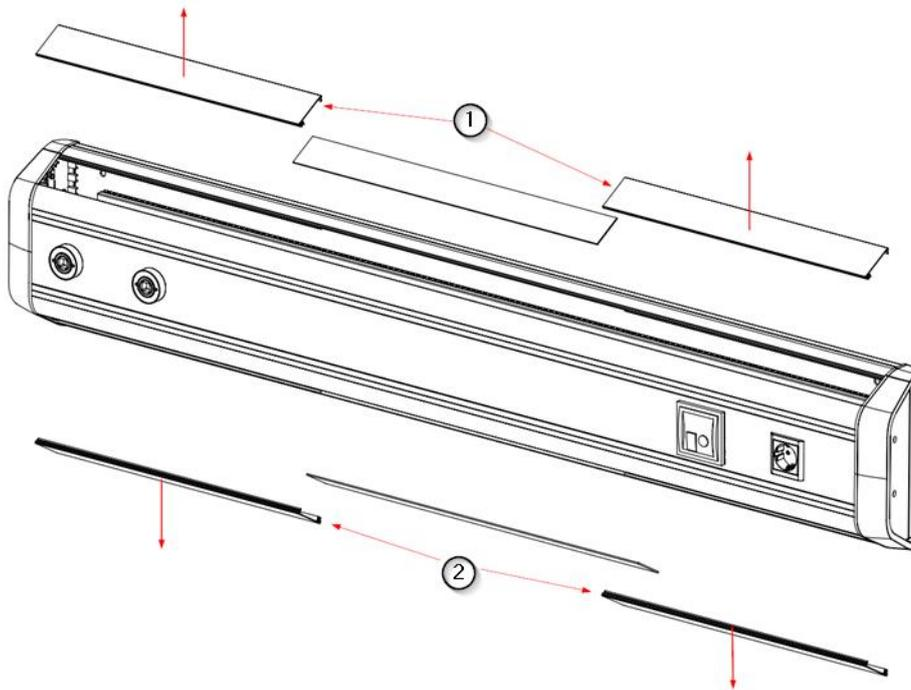

Fig.4 Removal of top and bottom coverings
- Remove the top covers ① and bottom covers ② as shown in figure 4 and leave them in a safe place.